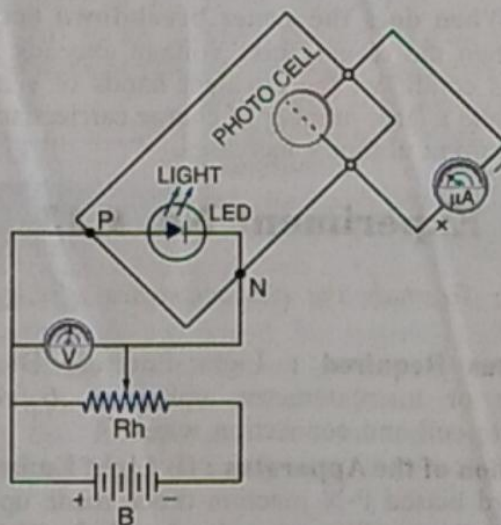

Fig. 42
(2) The electric connections are made as shown in Fig. 42 in which a microammeter is connected across the photo cell and the light emitting diode is connected in the forward bias keeping its 'P' end connected to the positive terminal of the potential divider and 'N' end to the negative terminal. The voltmeter 'V' measures the forward bias voltage on LED, which can be varied by sliding the rheostat.